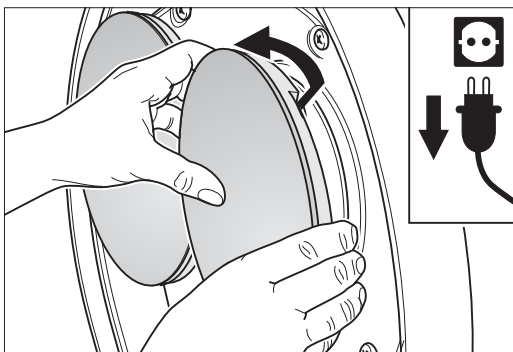

Fig. 53 Grasp the gear edges with your fingers and pull it out of the rubber jigs.
- 5 Remove the sanding discs or brushes. To do this, grasp the gear edges with your fingers and pull the gear out of the rubber jig (Fig. 53).